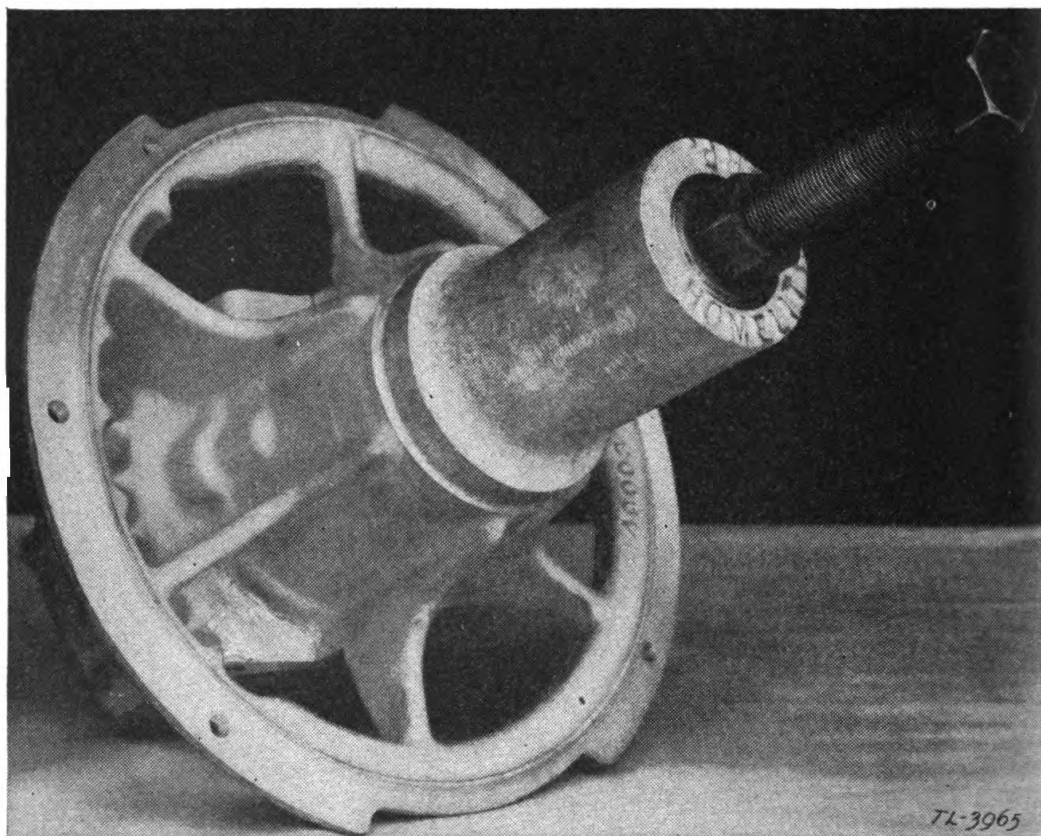

FIGURE 17.—Assembling crankshaft.
(c) Place the assembling fixture (571) on flywheel end of crankcase (fig. 17); insert jack screw (574) and screw it into hole in the end of the crankshaft. Then hold head of the jack screw with wrench and by screwing down on nut, draw crankshaft into place.